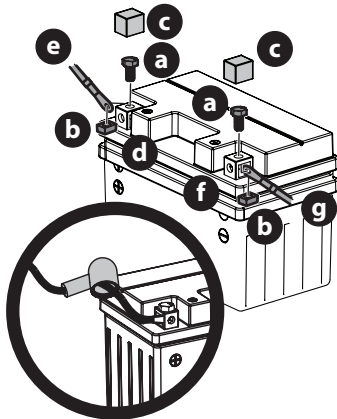

Figure 19
1. Remove the factory installed hex screws (a) and square nuts (b) located either on the end of the wiring harness or in the bag with this manual. Retain the hardware for later instructions (Figure 19).
2. Remove the plastic cover (c), if present, from the positive battery terminal (d) and attach the red cable (e) to the positive battery terminal (d) with one of the hex screws (a) and square nuts (b), from Step 1. Use a Philips screw driver (Figure 19).
3. Position the red rubber boot over the positive battery terminal (d) to help protect it from corrosion (Figure 19 inset).
4. Remove the plastic cover (c), if present, from the negative battery terminal (f) and attach the black cable (g) to the negative battery terminal (f) with the remaining hex screw (a) and square nut (b) (Figure 19).